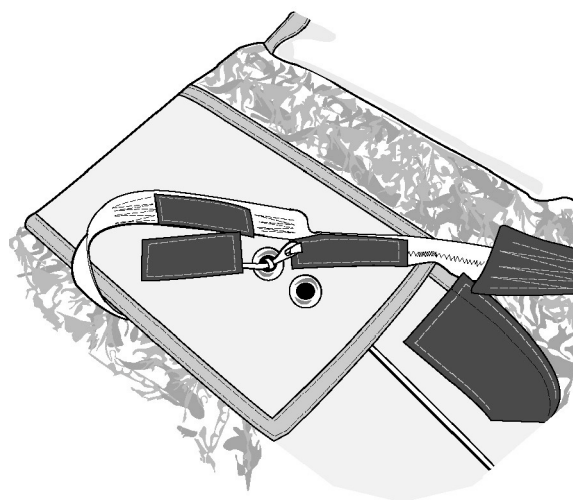

Figure 16. Routing of Drogue Bridle Curved Pin
d. Pull small loop through corresponding grommet of flap #2 and secure with the curved pin located on drogue attachment bridle. Remove pull-up cord from closing loop after curved pin is installed (Figure 16). (QA)